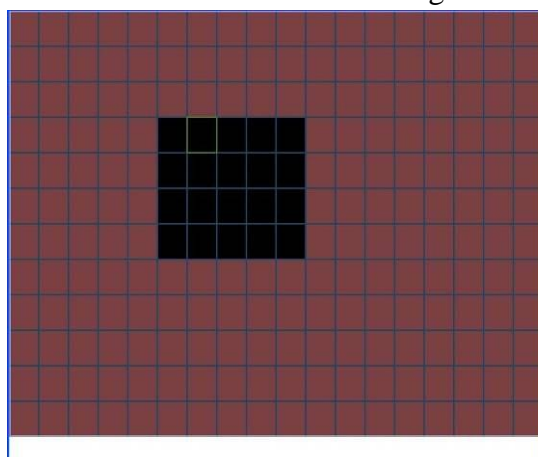

Figure 4-22
- Region: Click select button, the interface is shown as in Figure 4-22. Here you can set motion detection zone. There are 396(PAL)/330(NTSC) small zones. The green zone is current cursor position. Grey zone is the motion detection zone. Black zone is the disarmed zone. You can click Fn button to switch between the arm mode and disarm mode. In arm mode, you can click the direction buttons to move the green rectangle to set the motion detection zone. After you completed the setup, please click ENTER button to exit current setup. Do remember click save button to save current setup. If you click ESC button to exit the region setup interface system will not save your zone setup.
In Figure 4-22, you can left click mouse and then drag it to set a region for motion detection. Click Fn to switch between arm/withdraw motion detection. After setting, click enter button to exit.